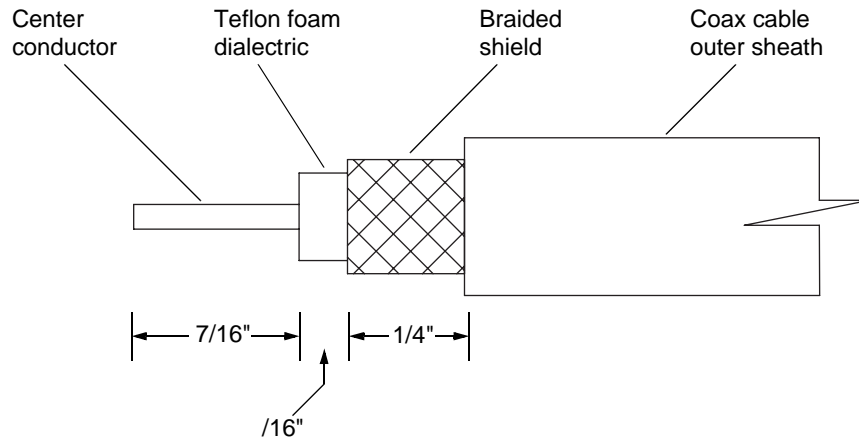

Figure 15. Stripping the Coax Cable
- 1 Use a sharp utility knife to strip the end of the coax cable as shown in Figure 15. Be careful not to score or nick the shield, dielectric, or center conductor.